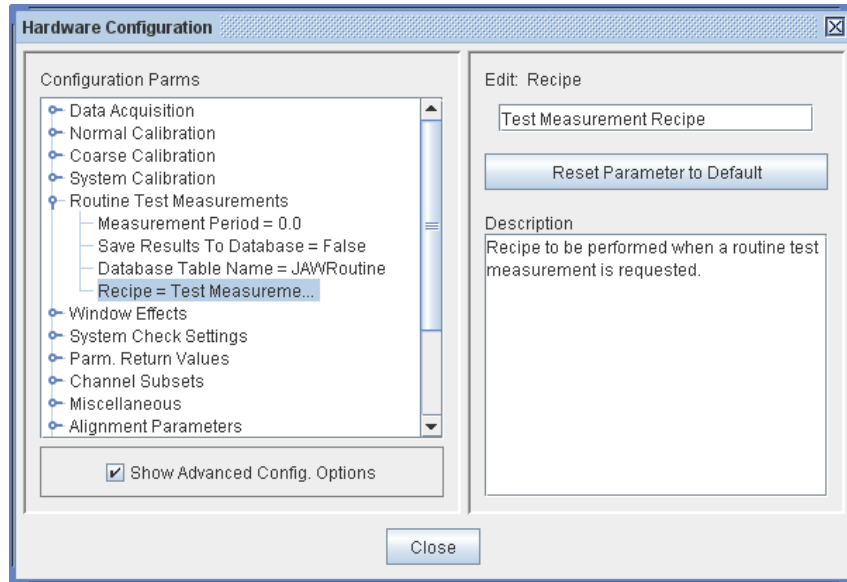

Figure 5-27. Hardware configuration dialog box.
3. From the **Hardware** tab, choose 'Edit Hardware Config.' to bring up the "Hardware Configuration" dialog box. Check the box labeled "Show Advanced Config. Options" and then expand the "Routine Test Measurements" section in the list on the left (see Figure 5-27). Select the "Recipe=" item and type the name of the recipe in the "Edit: Recipe" field at the top right. If you would like the software to prompt the user to perform the test measurement at periodic intervals, set the "Measurement Period" parameter to a value greater than 0. For example, if the "Measurement Period" is set to "1" then the software will prompt the user to perform a test measurement once per day.